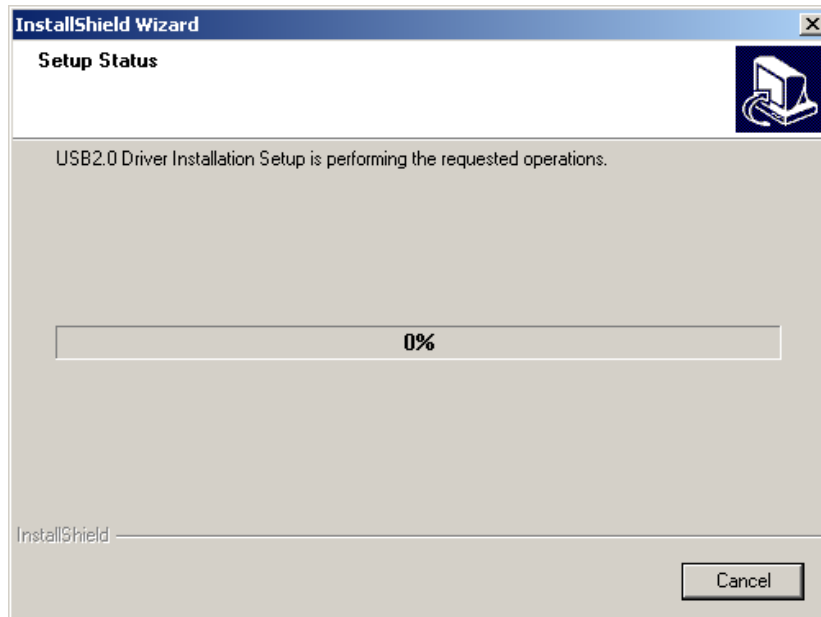

Figure 6-18: USB Driver Setup Status
Step 4: Read the license agreement. To accept the terms and conditions stipulated in the license agreement shown, click **YES** and the setup status appears (Figure 6-18).